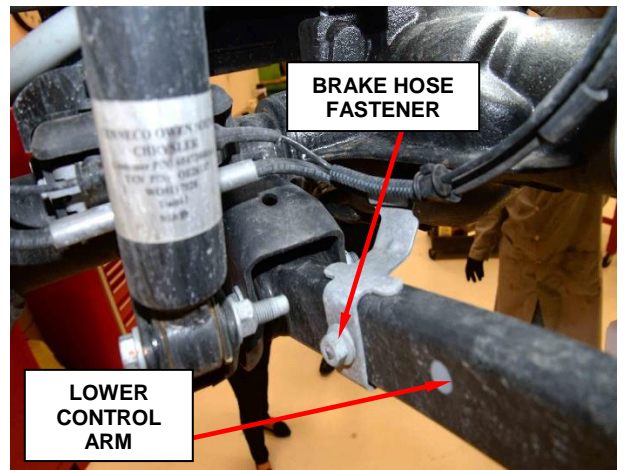

Figure 12 – Lower Control Arm
16. Remove the brake hose mounting fastener on the on the lower control arm (Figure 12).
24. Position the brake hose to the lower control arm mounting stud and tighten the nut to 18 N·m (13ft.lbs.) (Figure 12).